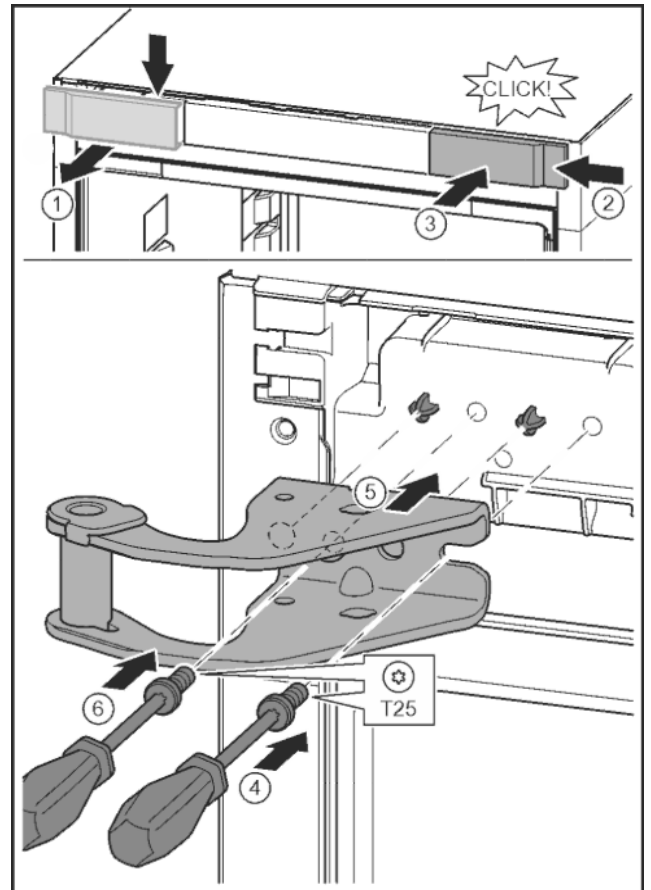

Fig. 11
- Release the cover and remove from the side. Fig. 11 (1)
- Rotate the cover 180° and clip onto the other side from the right. Fig. 11 (2)
- Click the cover into place. Fig. 11 (3)
- Position the screw with a T25 screwdriver. Fig. 11 (4)
- Position the upper bearing bracket. Fig. 11 (5)
- Tighten the screw. Fig. 11 (4)
- Insert the screw with a T25 screwdriver and tighten. Fig. 11 (6)